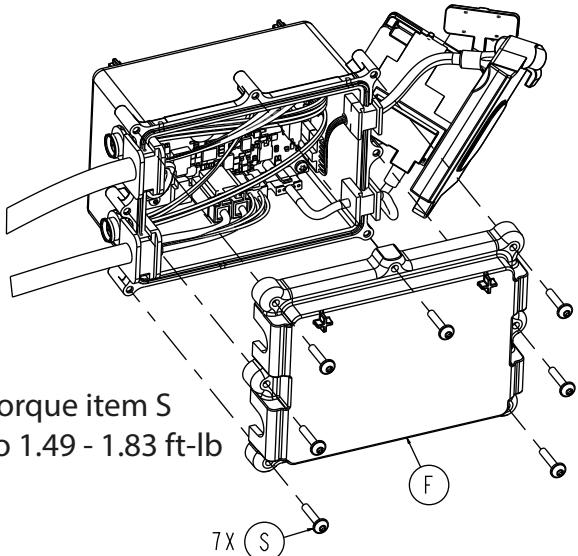

Figure 45 – Remove the HBC top cover screws
10. Using a T20 Torx driver, remove the seven round washer head tapping screws (S) that secure the top cover (F) to the HBC enclosure assembly (Figure 45). Remove and save the top cover. Save the screws.